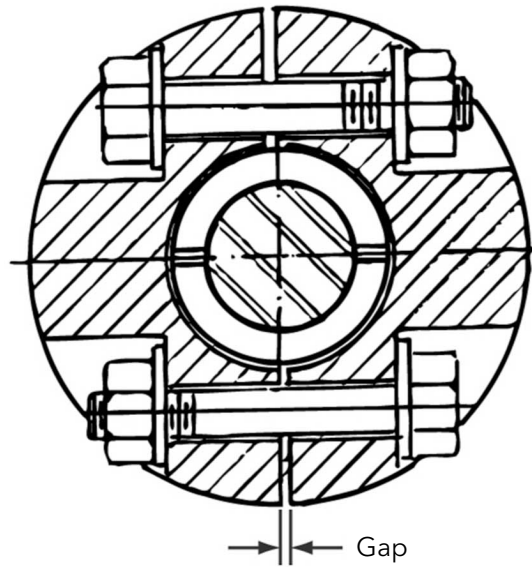

Figure 16: Top view
8. Insert the coupler cap screws and place a lock washer and nut on each screw. The bolt heads at each level on opposite sides of the coupling should face in different directions for balance as shown in Figure 16: Top view on page 26.